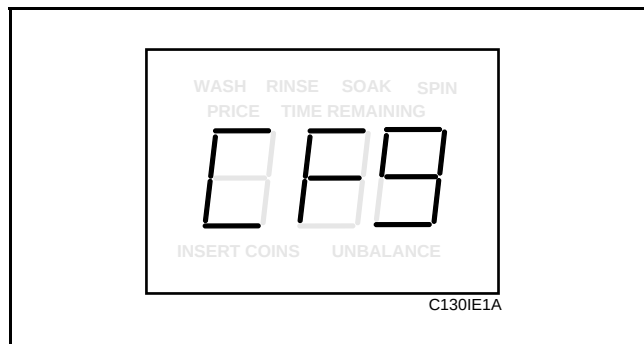

Figure 86
3. Press the DELICATES (+) pad or the COLD (-) pad to scroll through the programmable options until “CFg” appears in the VFD. See **Figure 86**.